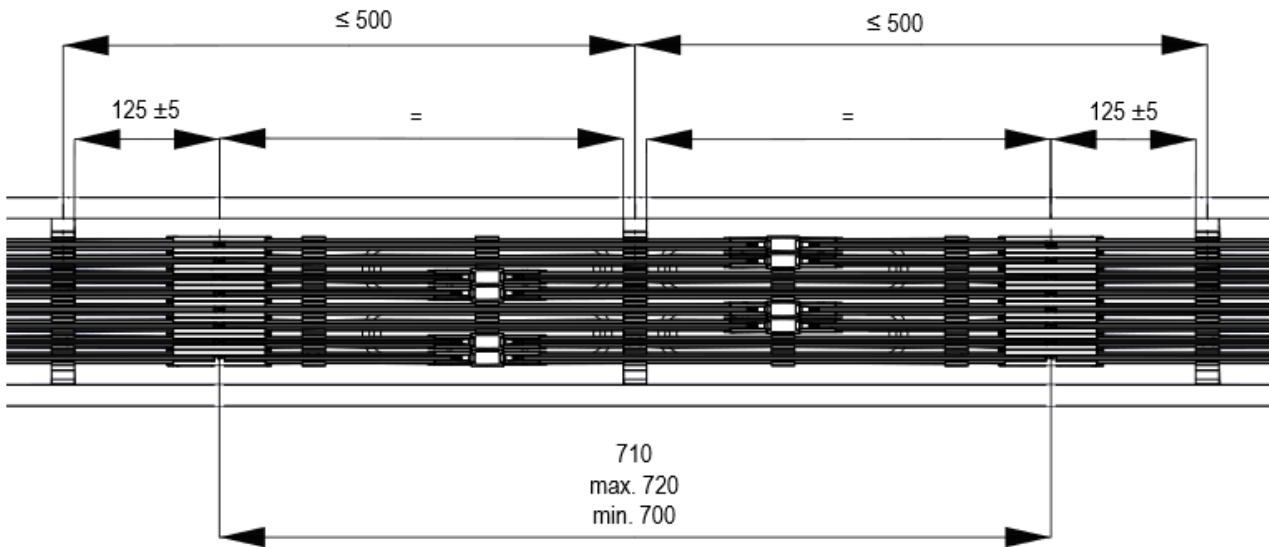
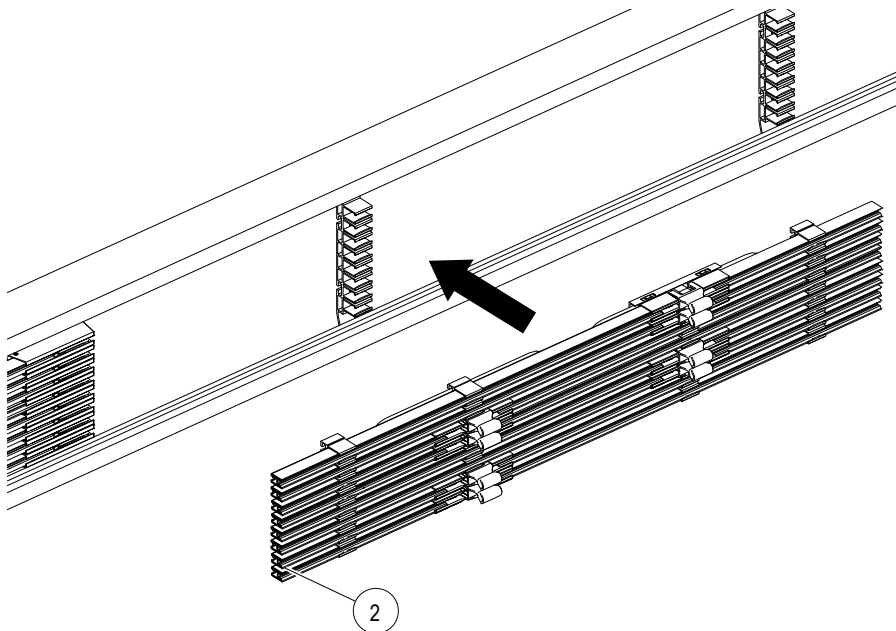

Fig. 70: Distance hanger clamps
Fig. 82: Hang the expansion module in the hanger clamps
- The distance from the center of the connector to the hanger clamp (left and right of the expansion module) must be  $125 \pm 5$  mm. Move a hanger clamp if necessary. If a hanger clamp must be moved or supplemented with another hanger clamp, the distance to the next hanger clamp must not be greater than 500 mm (see Fig. 70).
→ Hang the expansion module (Pos. 2) in the hanger clamps (see Fig. 82). The hanger clamp must be centered between the expansion joints (see also Fig. 70). It can also be aligned if required.